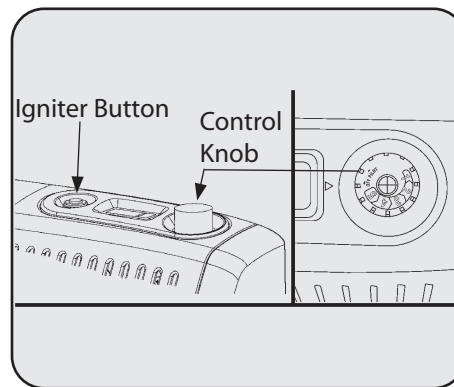

Figure 16
3. Push in gas control knob and slightly turn clockwise ↻ to the OFF position See Figure 16.
4. Wait five (5) minutes to clear out any gas. Then smell for gas, including near the floor. If you smell gas, **STOP!** Follow "B" in the safety information above. If you do not smell gas, go to the next step.
5. Turn counterclockwise ↻ to PILOT/IGN, if knob does not turn then slightly depress and turn. Once knob is in PILOT/IGN depress for five (5) seconds.
7. Keep control knob pressed in for (30) seconds after lighting pilot. After 30 seconds, release control knob.